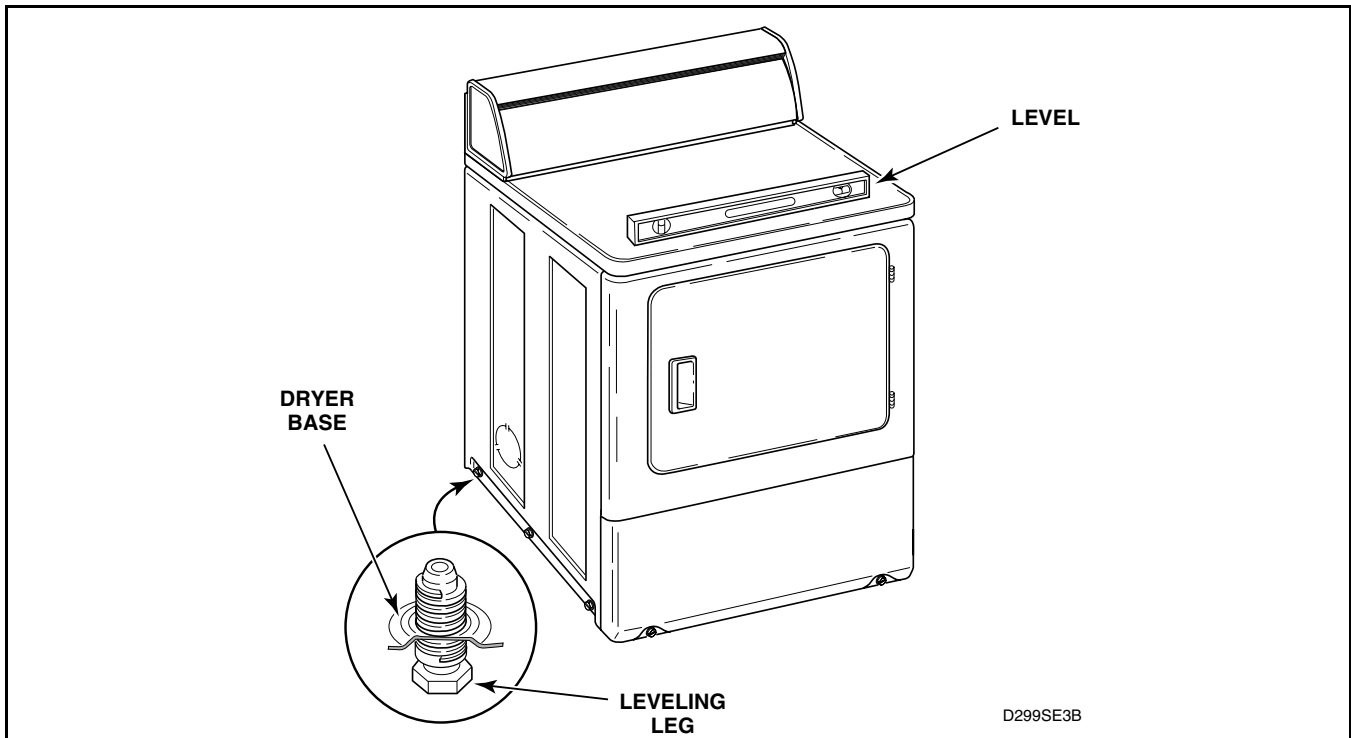

Figure 38
- o. Remove leveling legs from base and reinstall on new base. Refer to *Figure 38*.
(Figure 38)